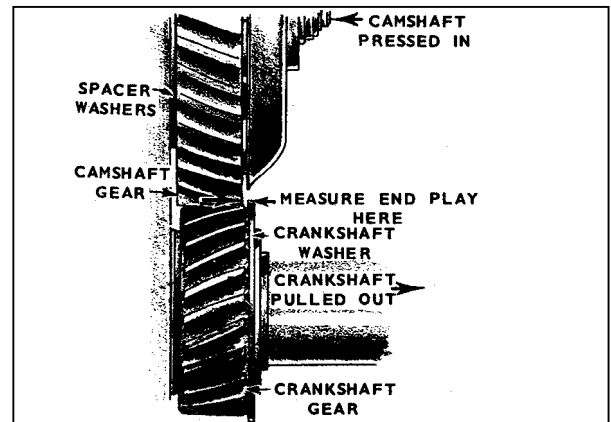
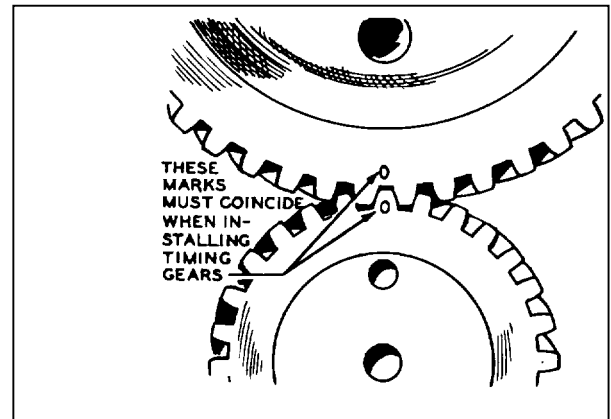

Fig. 5 Camshaft End Play
Fig. 6 Timing Marks
- (1) Install the key and press the camshaft gear on its shaft.
- (2) Install the governor components.
- (3) Slide the thrust washer onto the shaft. Measure camshaft end play; it should be .007 in. to .039 in. (Fig. 5).
- (4) Lay the engine on side or end and insert the push rod tappets.
- (5) Install the camshaft assembly in the engine. Align the timing marks on the camshaft gear and crankshaft gear (Fig. 6).
- (6) Replace the push rods and fuel transfer pump.
- (7) When the engine is reassembled, install the injection pump, following the steps of Injection Pump Installation. This step is critical.